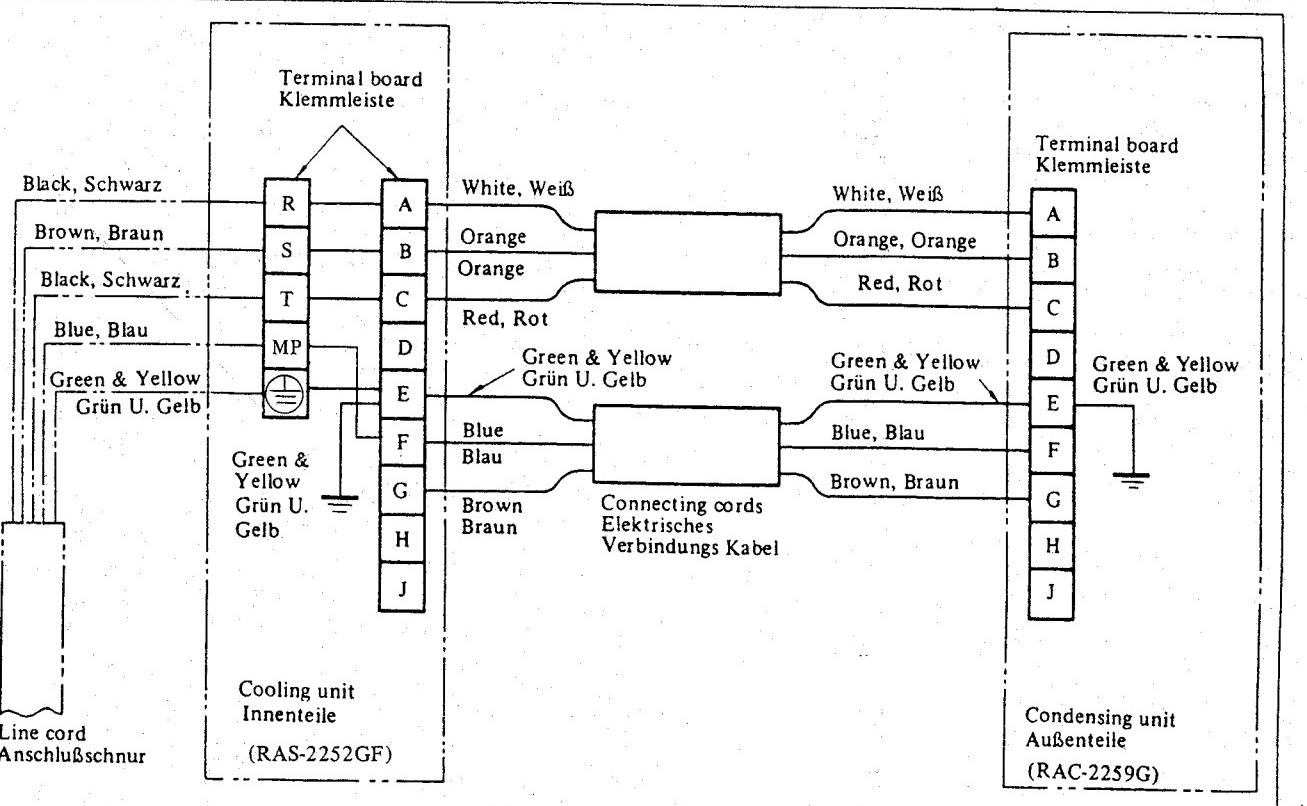

Abb. 17
- ④ Connect the connecting cords which is belonged to the pipe and the earth cable which is belonged to the condensing unit to the terminal board. Never connect the wiring by mistake. (Fig. 17)